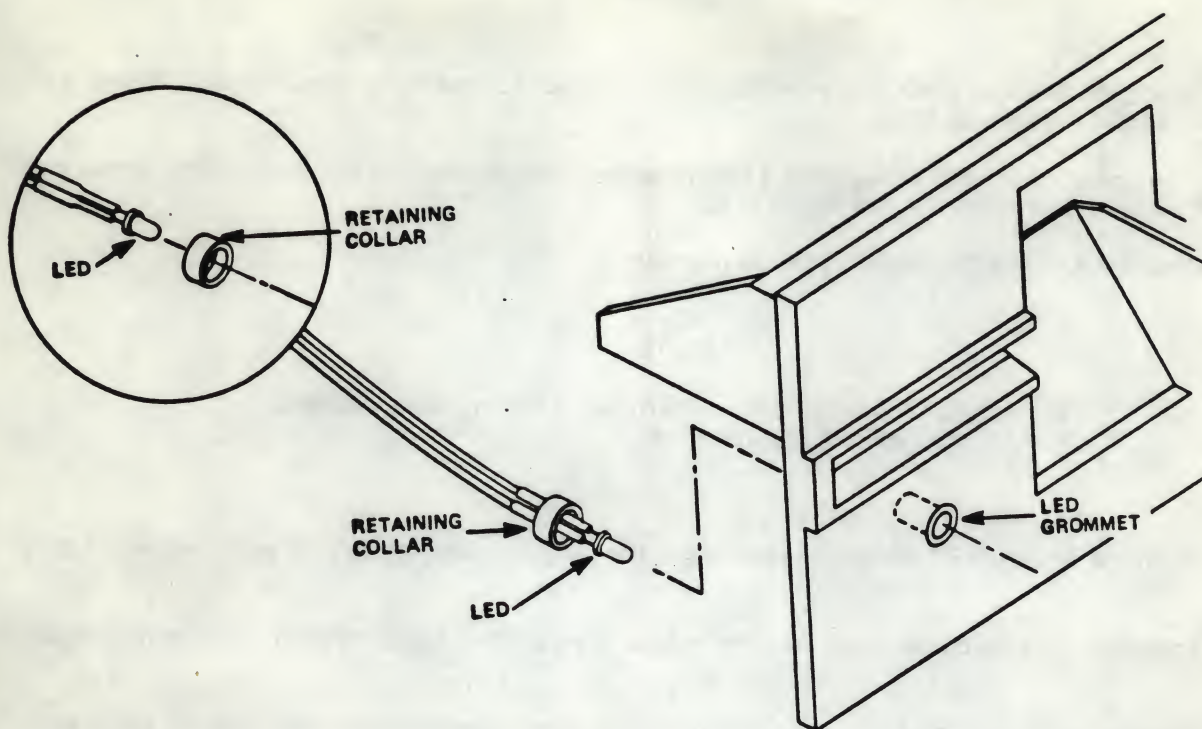

Figure 5-12
5.7.3 Remove the retaining collar that attaches the Activity LED Assembly to the front panel by taking a pair of needle nose pliers and gently pulling the retaining collar away from the front panel (see Figure 5-12).
5.7.10 Push the Activity LED Assembly retaining collar over the back of the LED grommet (see Figure 5-12).